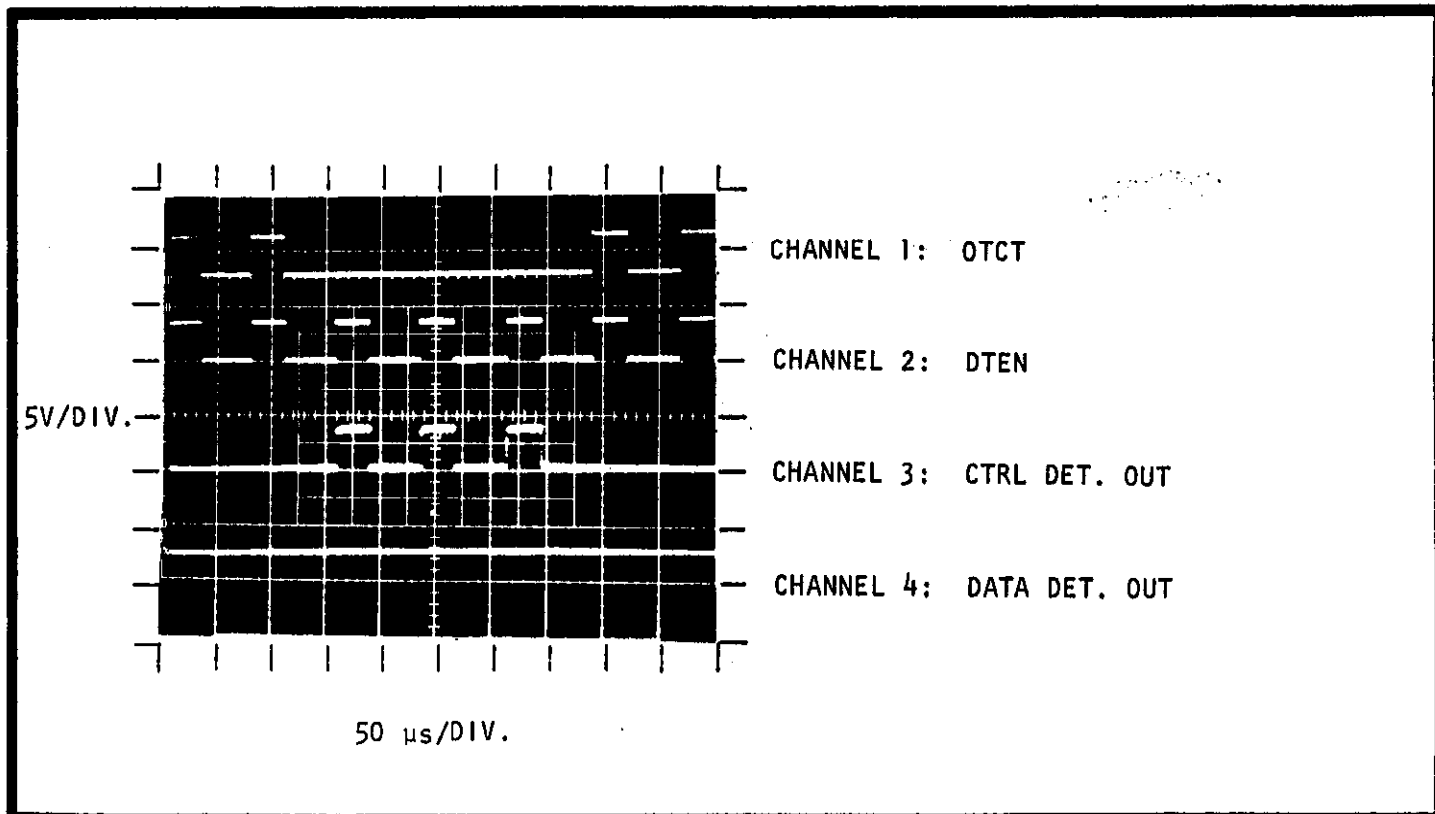

FIGURE 10. Trace For Test #2.
6. Verify that OTCT is present except during each execution of an OPCB instruction (three consecutive OPCB instructions as in this example), as shown in Figure 10.